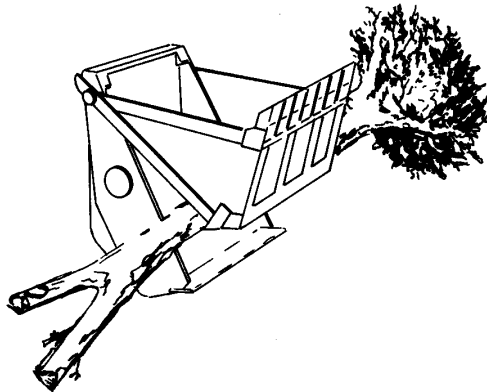

Fig. 4.49. Transporting Trees with Multi-purpose Bucket
- 8. When transporting trees or other large objects, always balance the load as shown in Fig. 4.49. Balance the load when picking it up to prevent twisting the boom assembly and linkage.